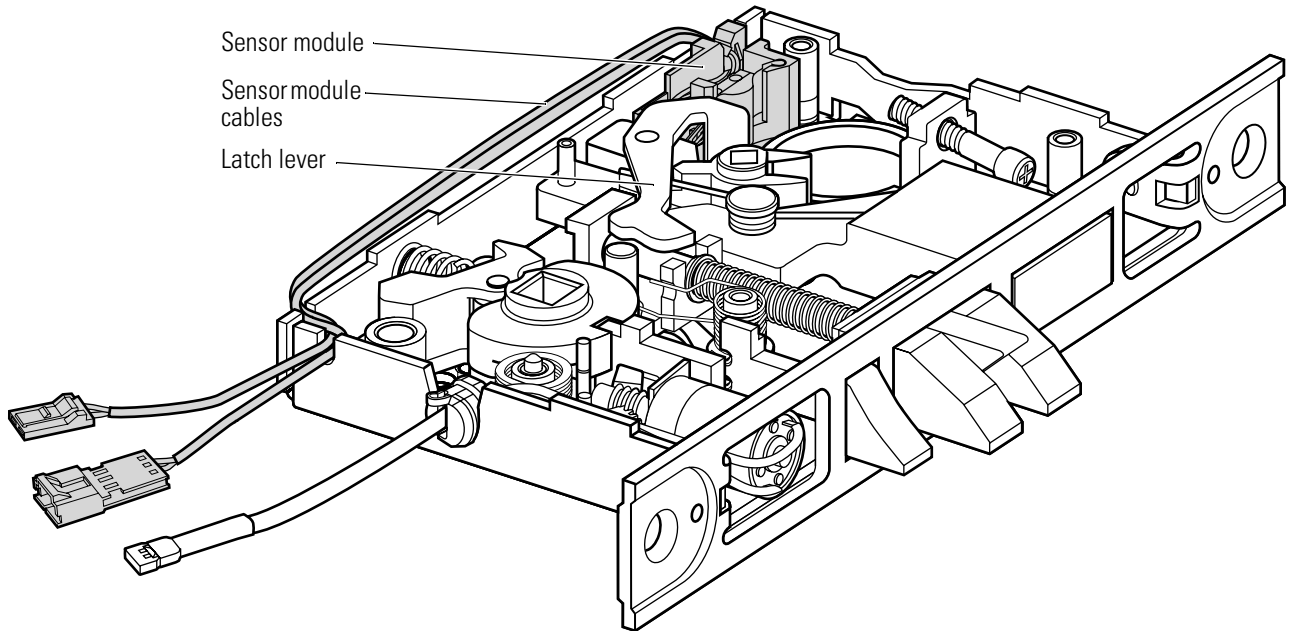

Figure 6.10 Removing and reinstalling the sensor module (FV function, LH case shown)
1. Position the sensor module in the case and route the cables as shown in Figure 6.10.
2. Remove the latch lever. See Figure 6.10.